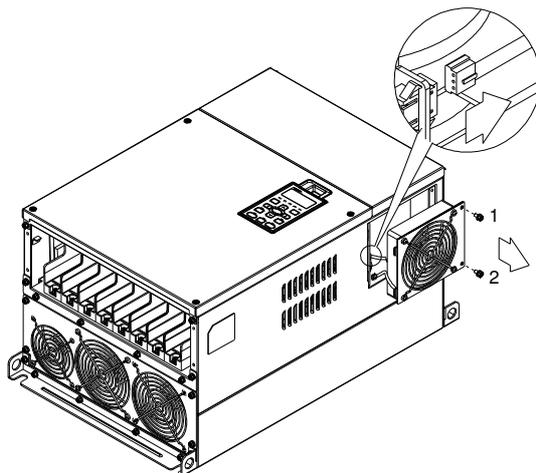

Figure 3
1. Loosen screw 1~2 (figure 3) and disconnect fan power and pull out the fan. (As shown in the enlarged picture 3)